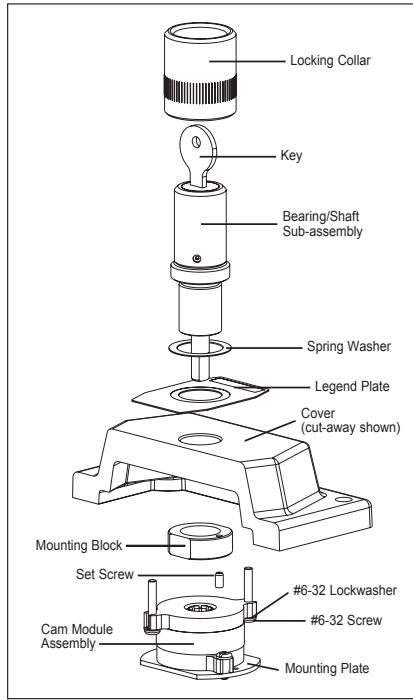

Figure 13. Assembly of Keyed Selector Switch Operator
- Referring to Figure 13, install bearing/shaft sub-assembly and spring washer to the front side of the cover by threading it down snug to the cover in the desired location. Use a DL Legend Plate, if required, as noted in 'Assembly of Pushbuttons'.
- This step will allow the contact block(s) to be in the proper position. Temporarily mount the cam module assembly on the shaft and loosely fasten to inside of cover using #6-32 lockwashers and screws. Back out the bearing/shaft sub-assembly until key is removable in proper position(s). Install locking collar tight against cover, check key removal and adjust bearing/shaft sub-assembly, if necessary. Remove cam module assembly. Thread the mounting block onto the bearing inside the cover so that the mounting block is above flush with the shaft retaining ring. Tighten set screw in mounting block using a 1/16" hex wrench, thereby locking the mounting block to the cover. Orient the mounting plate on cam module assembly so that the two (2) flat sides are parallel with the long side of the cover. Then, slide operator module assembly onto shaft. Fasten the cam module assembly to the cover using #6-32 lockwashers and screws.